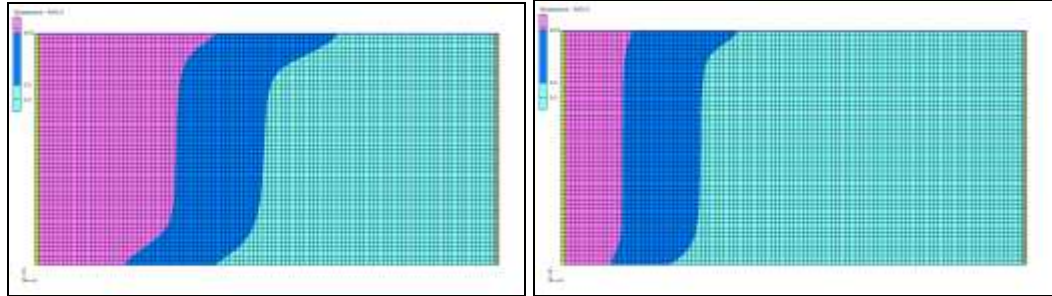

Figure 2 Comparison of case3 and case4 temperature fields
2. Select all the cells on the east side of the model (Figure 2). The user can do this by dragging a box around the cells as shown below.